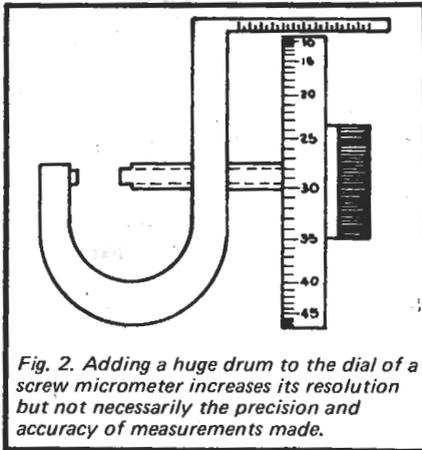

Fig. 2. Adding a huge drum to the dial of a screw micrometer increases its resolution but not necessarily the precision and accuracy of measurements made.
**Resolution** — at the finest scale available from a particular process of comparison — is the ability to resolve between successive increments in the chosen scale. A person using a mercury-thermometer might be able to resolve, say, 0.1°C intervals, subdividing these intervals into two divisions by eye gives a resolution of 0.05°C. By adding an optical magnifying system (or mechanical gain in, say, a micrometer — as depicted in Fig. 2) which has an inscribed scale at its focal plane, it is possible to raise the resolution 10 times or higher.